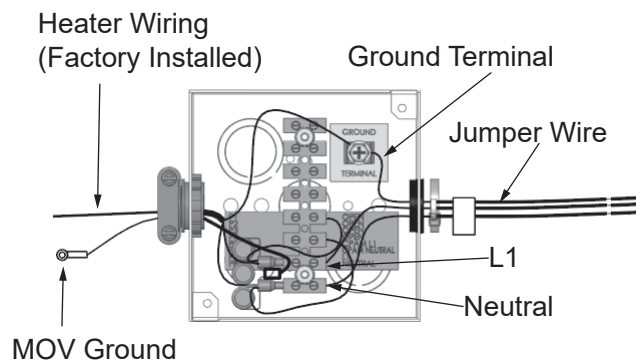

Figure 43. Electrical Wiring - Junction Box
The 120-VAC hot wire from the power supply must connect to the black jumper wire or the “L1” terminal block location in the junction box and the 120-VAC neutral wire must connect to the white jumper wire or the “Neutral” terminal block location in the junction box for correct polarity. See *Figure 43*.
4. Wrap electrical tape around the wire nut and wire end. See the junction box shown **Figure 43** and the wiring diagram shown in **Figure 54** (page 79).
5. Connect the 120-VAC neutral wire from the power supply to the white jumper wire or the terminal block location marked "Neutral" inside of the junction box located on top of the water heater. If the white jumper wire is used, make the connection inside of the junction box with a properly sized wire nut and wrap electrical tape around the wire nut and wire end. See the junction box shown **Figure 43** and the wiring diagram shown in **Figure 54** (page 79).
6. Connect the ground wire from the power supply to the grounding lug inside the junction box. See the junction box shown **Figure 43** and the wiring diagram shown in **Figure 54** (page 79).